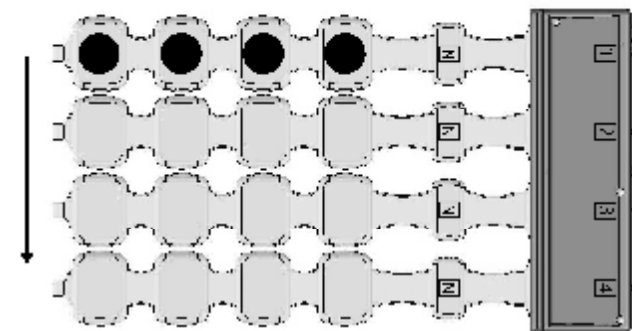

Fig. 15
- «traveling horizontal» (fig. 15) - simultaneous excitation of all inductors in one stripe-line with the following one-way excitation of all inductors of the neighboring stripe-line according to the cyclic law, cycle for this scan type makes up four «step» excitation of inductors` stripe-lines ( according to the number of stripe-lines in the emitter);